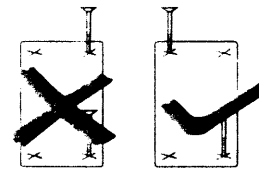

Figure 4
- Partially tighten each screw manually, start screwing at opposite corners of the unit for better support <See figure 4>. Do not fully tighten the screw until all of them have been started. Gently tighten each screw until they are firmly holding the unit in place.